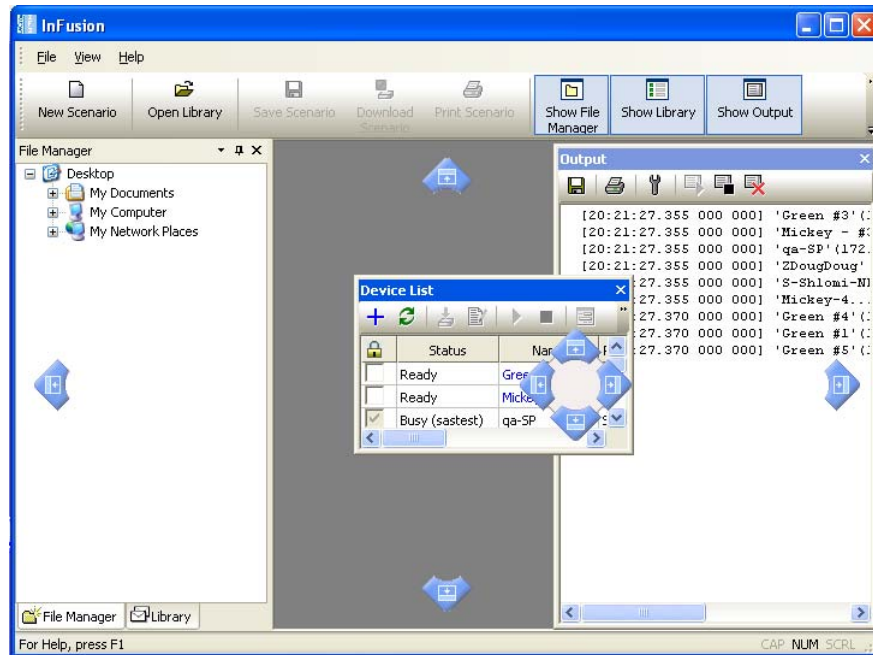
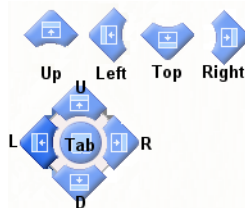

Figure 29 Application Display: Smart Docking Activated
Figure 30 Smart Docking Positioning Buttons
SAS InFusion has a window-positioning feature called "Smart Docking". It allows precise positioning of windows within the application. When Smart Docking is enabled, Positioning buttons appear whenever you move a window (Figure 29 and Figure 30).
The larger button can also let you create tabbed windows. To create tabbed windows, drag the mouse over the central part of the positioning button (the Tab button in Figure 30).
- Step 1** Position your mouse pointer over a title bar of a window and click and hold the Mouse button. To reposition a tabbed window, click and hold on the Windows tab. The Positioning buttons appear as shown in Figure 30.